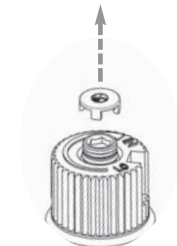

Fig.1
10) Remove the black protection cap by hand from the high-low knob (Fig.1).